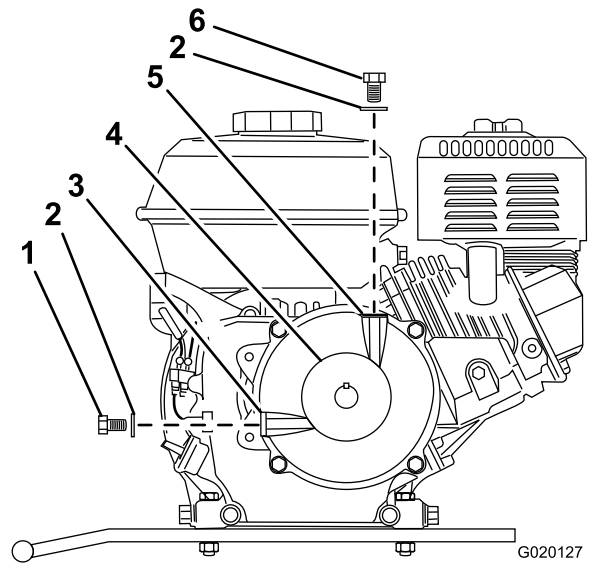

Figure 59
3. Remove the filler bolt and washer from the filler port on the top of the reduction case (Figure 59).
4. Remove the oil-level-check bolt and washer from the oil-level port in the side of the reduction case (Figure 59).
9. Install the oil-level-check bolt and washer to the oil-level port of the reduction case, and tighten the oil-level-check bolt (Figure 59).
10. Install the filler bolt and washer to the filler port of the reduction case, and tighten the filler bolt (Figure 59).